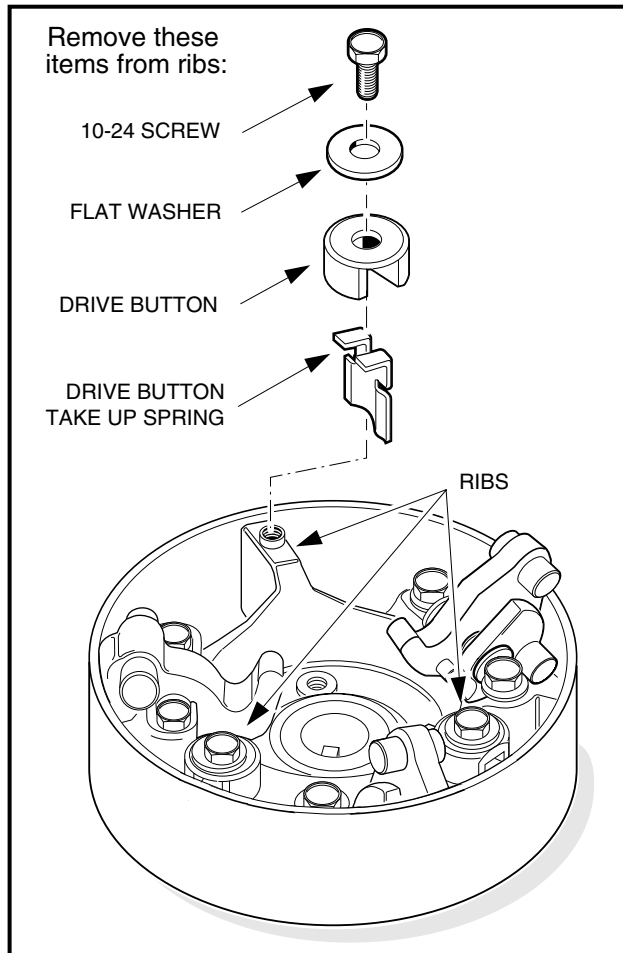

Figure 17-8 Drive Button Mounting
- 4.1. Remove the screws, flat washers, drive button take-up springs, and drive buttons. (**Figure 17-8, Page 17-9**).
14. Compress the take-up springs and install the drive buttons over the ribs and take-up springs (**Figure 17-8, Page 17-9**).